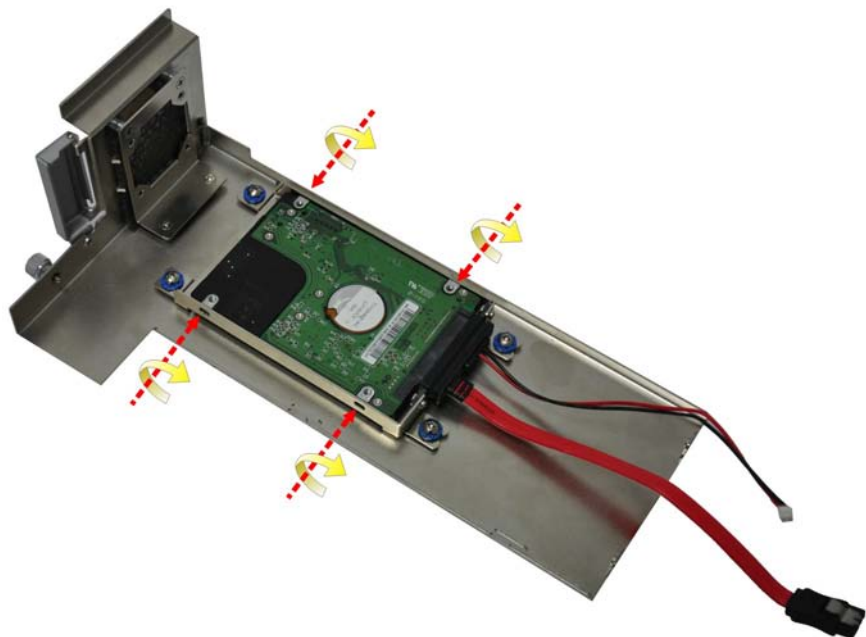

Figure 3-7: HDD Retention Screws
Step 4: Secure the HDD with the HDD bracket by four retention screws (**Figure 3-7**).